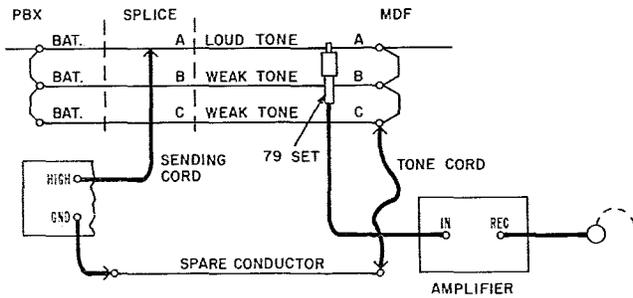

Fig. 8—Listen for Louder Tone
2.09 Listen carefully with the 79D Test Set over the conductors on which tone is heard. If one of the conductors has a louder tone than the others, it indicates that it is the one on which tone is being sent from the splice. *The difference in tone on the strapped conductors depends on the location of the splice with respect to the PBX and the main frame, as well as on the number of conductors that are strapped together.* The nearer the splice is to the PBX the more difficult it is to detect a tone difference at the main frame. The typical connections with strapped battery conductors are shown in Fig. 8. For simplicity, the ground supply conductors are omitted.
- (a) Referring to Fig. 8, if tone is sent on conductor A the pickup on A at the frame should be louder than on B or C. If sent on B the pickup on B should be louder than on A or C. If sent on C the pickup on C should be louder than on A or B.